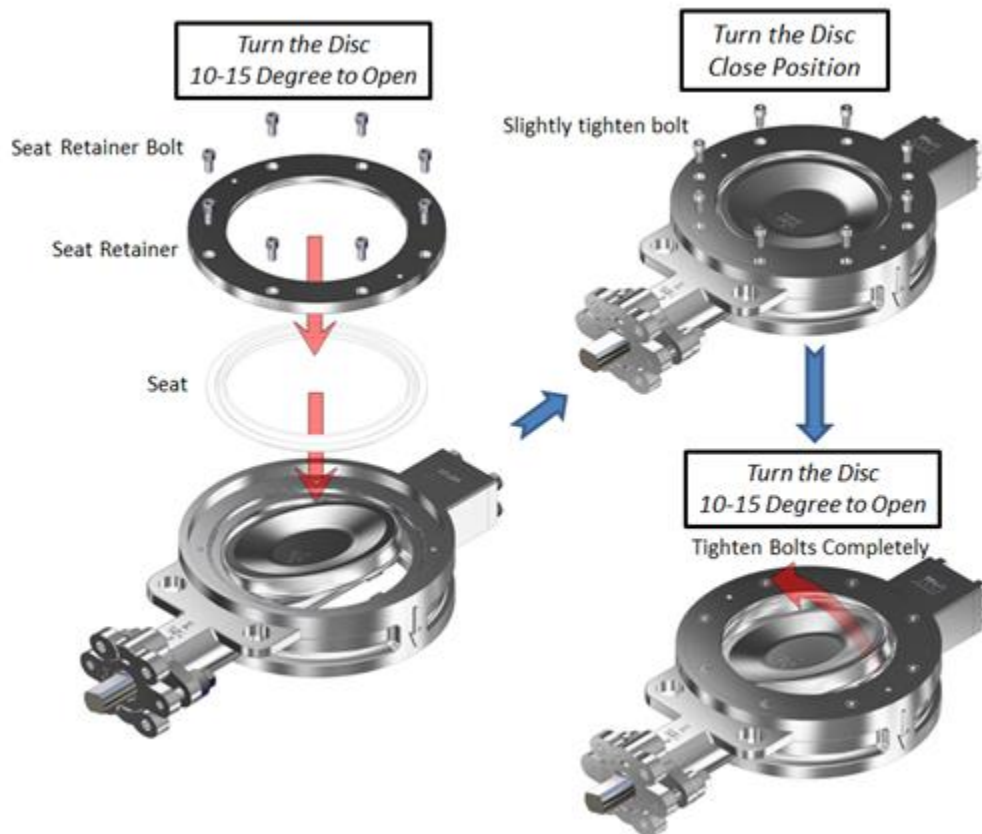

FIGURE 6. SOFT/METAL SEATED RETAINER REPLACEMENT
1. Refer to Figure 6 for soft seated retainer replacement.